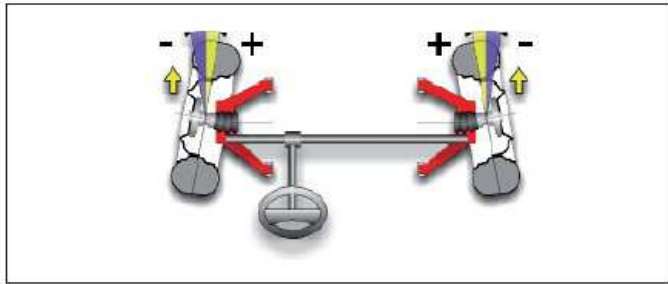

Figure 10
1) Toe: Angle formed by the equatorial plane of the wheel and the axis of symmetry or thrust axis of the vehicle (figs.10 and 11). The axis of symmetry of the vehicle is the imaginary line which divides the vehicle in half lengthways, while the thrust axis is the travel direction established by the rear axle. The units of measurement of toe are the degree and the millimetre.